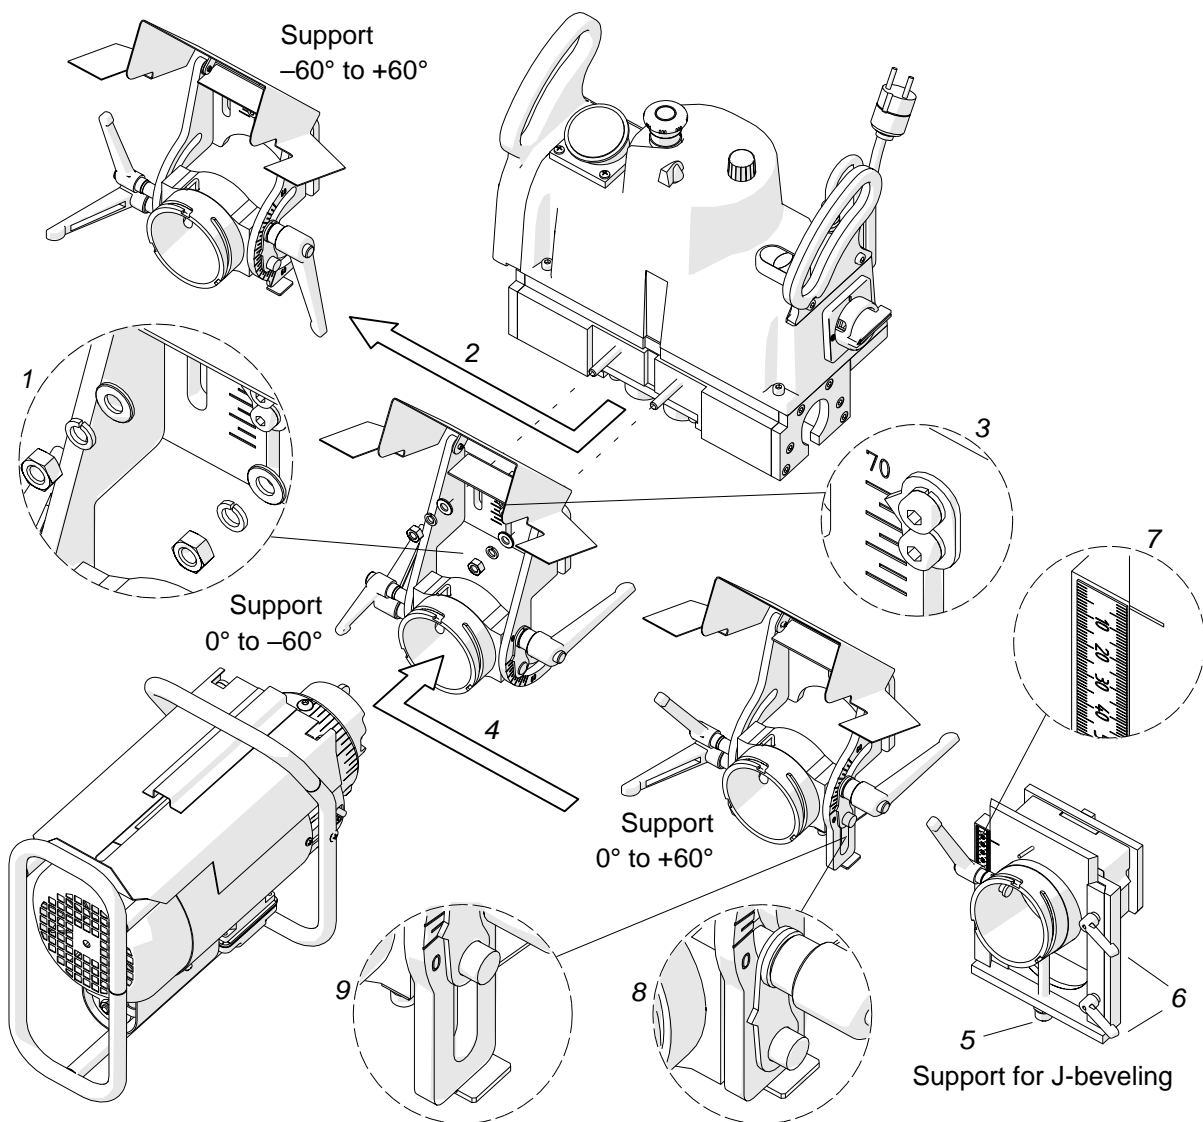

Fig. 10. Replacing the milling head support
Then, unscrew the nuts using the 13 mm flat wrench (1, Fig. 10), and remove the installed support (2). Before installing the support for beveling 36–70 mm thick plates at the angle of 0° to –60°, loosen two screws (3) using the 4 mm hex wrench and set the indicator to the thickness of the plate to be machined. Position the milling unit support on the screws (4), in the shown order place the washers under the nuts (1), and tighten the nuts afterward.
To face the plate using the support for beveling 36–70 mm plates at the angle of 0° to $+60^{\circ}$, perform the first pass with the milling unit in the lowest position (8, Fig. 10), and then the second pass at the indication of '0' (9).